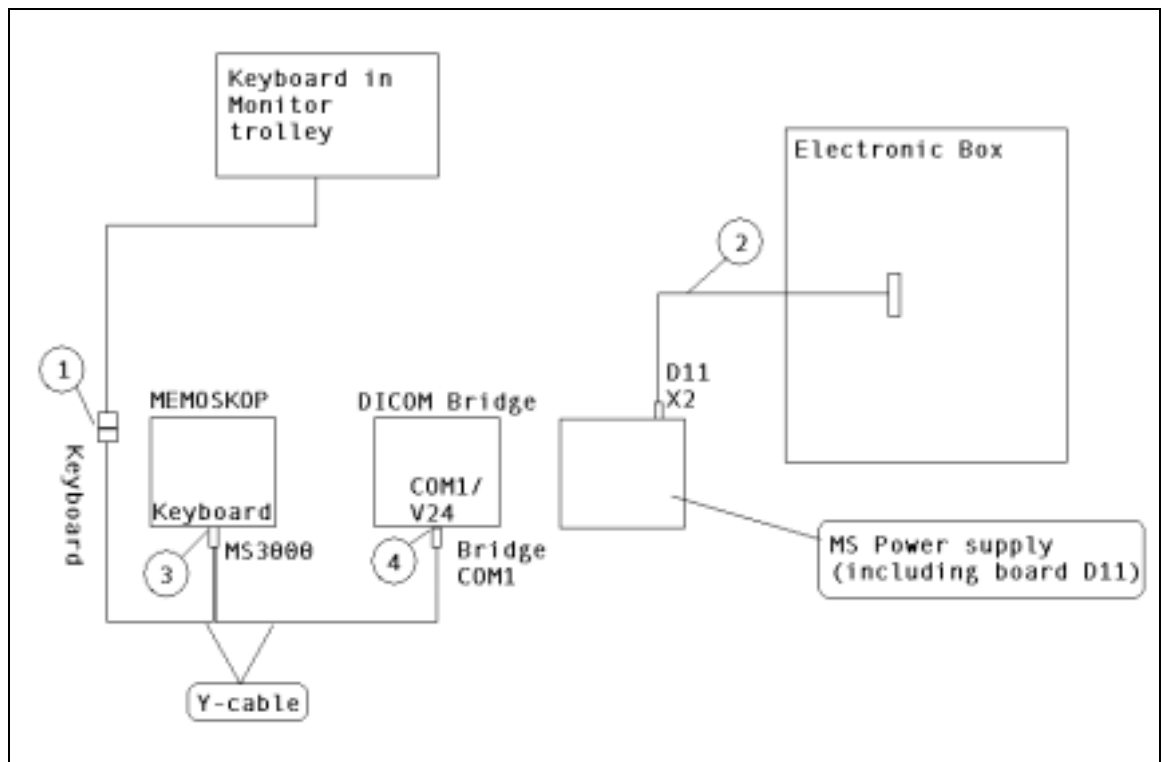

Fig. 4
- Plug D11.X2 (2/Fig. 4) of the additional TV cable is already attached and screwed to plug D11.X2 of the MS power supply.
- Connect "MS3000" plug of the Y-cable (included in the shipment of DICOM bridge) to MEMOSKOP, plug "keyboard" (3/Fig. 4) and secure the screws.
- Attach plug "Bridge COM 1" of the Y-cable to "COM1 / V24" plug of DICOM bridge (4/Fig. 4) and secure the screws.
- Attach keyboard plug of the internal keyboards to "keyboard" plug of the Y-cable (1/Fig. 4).